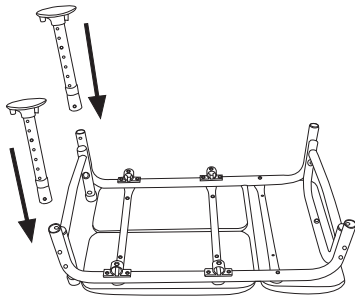

Figure 1
3. Attach leg with the larger suction cups by pressing the push pin on the attached portion of the leg while sliding the unattached leg portion over top. Repeat for the second leg. **(Figure 1)**.